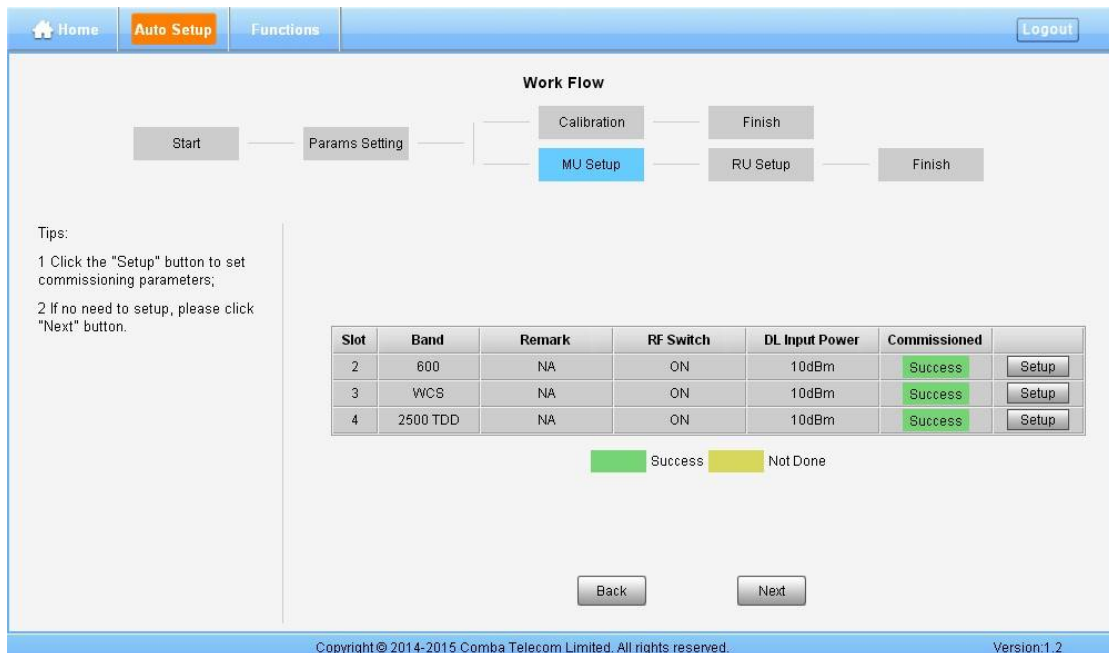

Figure 71: Commissioning Procedure – MU Setup
Step 7: Click "Calibrate" and click "OK" to start the Calibration procedure, Figure 71.